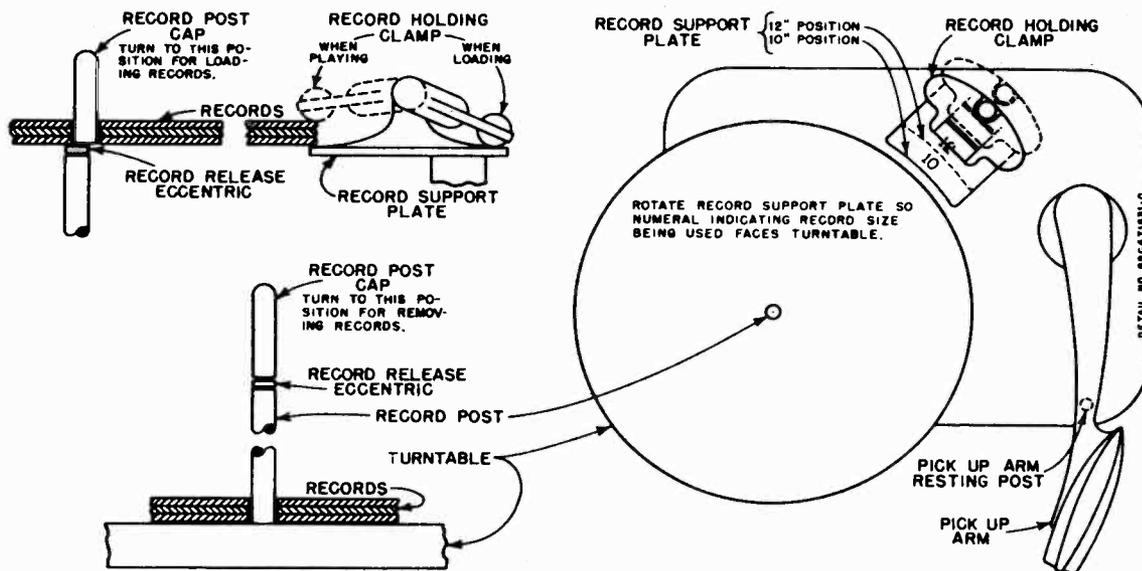

FIGURE 1. OPERATING INSTRUCTION DETAIL
*(Throughout the following instructions, refer to Figure 1).*